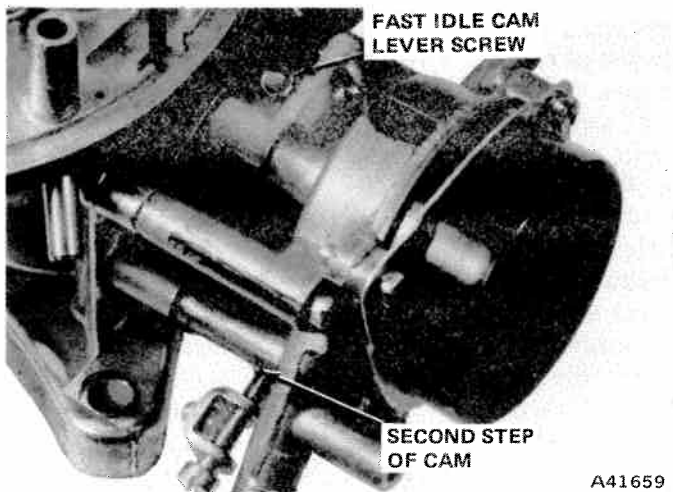

Fig. 4-50 Fast Idle Cam Linkage Adjustment
(1) Push down on fast idle cam lever until fast idle speed adjusting screw is in contact with the second step (index) and against the shoulder of the high step.
(2) Measure clearance between the lower edge of choke valve and air horn wall (fig. 4-50). Refer to Carburetor Service Specifications for the correct setting.
(3) Adjust by turning the fast idle cam lever screw.
(4) Loosen the choke cover retaining screws and adjust the choke as outlined under Automatic Choke Adjustment.
(5) Install choke shield clamp and retaining screws.